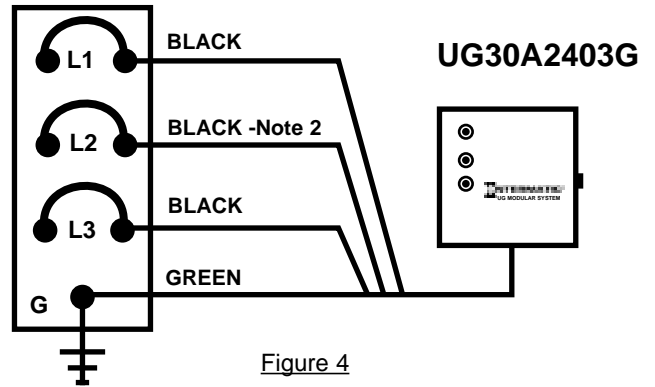
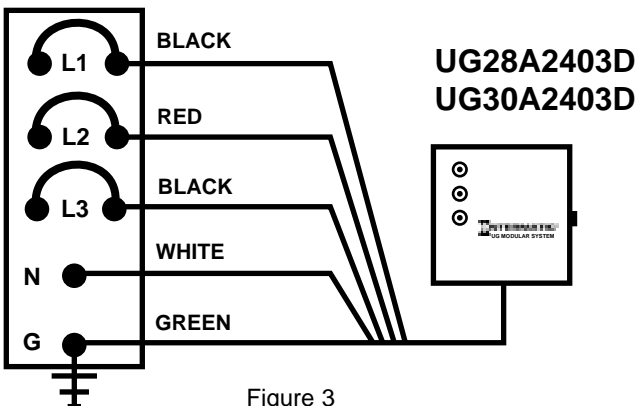

Figure 4
Figure 3
7. Connect the phase leads to the fuse block terminals in the UG Modular unit. Connect each phase lead to the appropriate breaker or bus connections in the electric panel. NOTE: For HIGH LEG DELTA, make certain that the high leg is connected to the middle fuse terminal position.(Refer to Figure 3) For GROUNDED PHASE DELTA, make certain that the grounded phase is connected to the middle fuse terminal position in the UG Modular unit.(Refer to Figure 4)